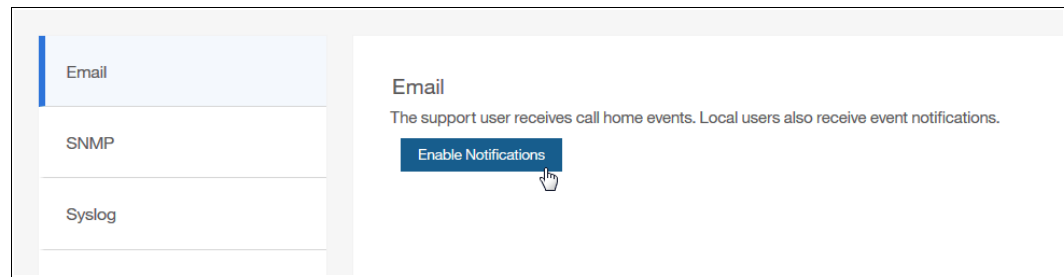

Figure 12-62 Enabling email notifications
1. Browse to **Settings** → **Notifications** → **Email** and select **Enable Notifications**, as shown in Figure 12-62.